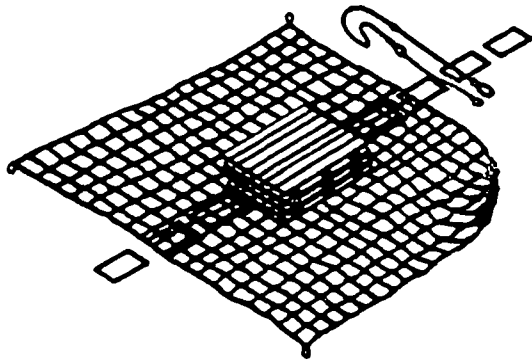

Figure 9-14. Positioning Pallets in Net
- Stack four or more wooden pallets or six or more metal pallets in the center of the net (Figure 9-14).